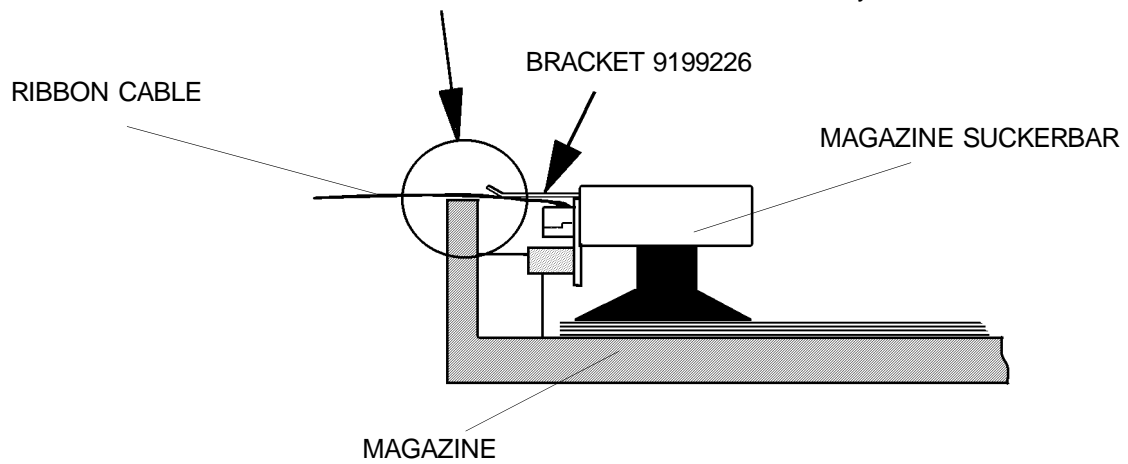

figure 15
**27.** Check that the MAGZINE SUCKERBAR does not become blocked by the edge of the MAGAZINE and that all the films are unloaded from the MAGAZINE without any problems. See figure 15.
**Perform this test at MAGAZINE level 1,4 and 7. If the MAGAZINE SUCKERBAR is blocked and does not reach all the films in the MAGAZINES. See figure 15 : Bend the BRACKET 9199226. After this you have to repeat step 21.**